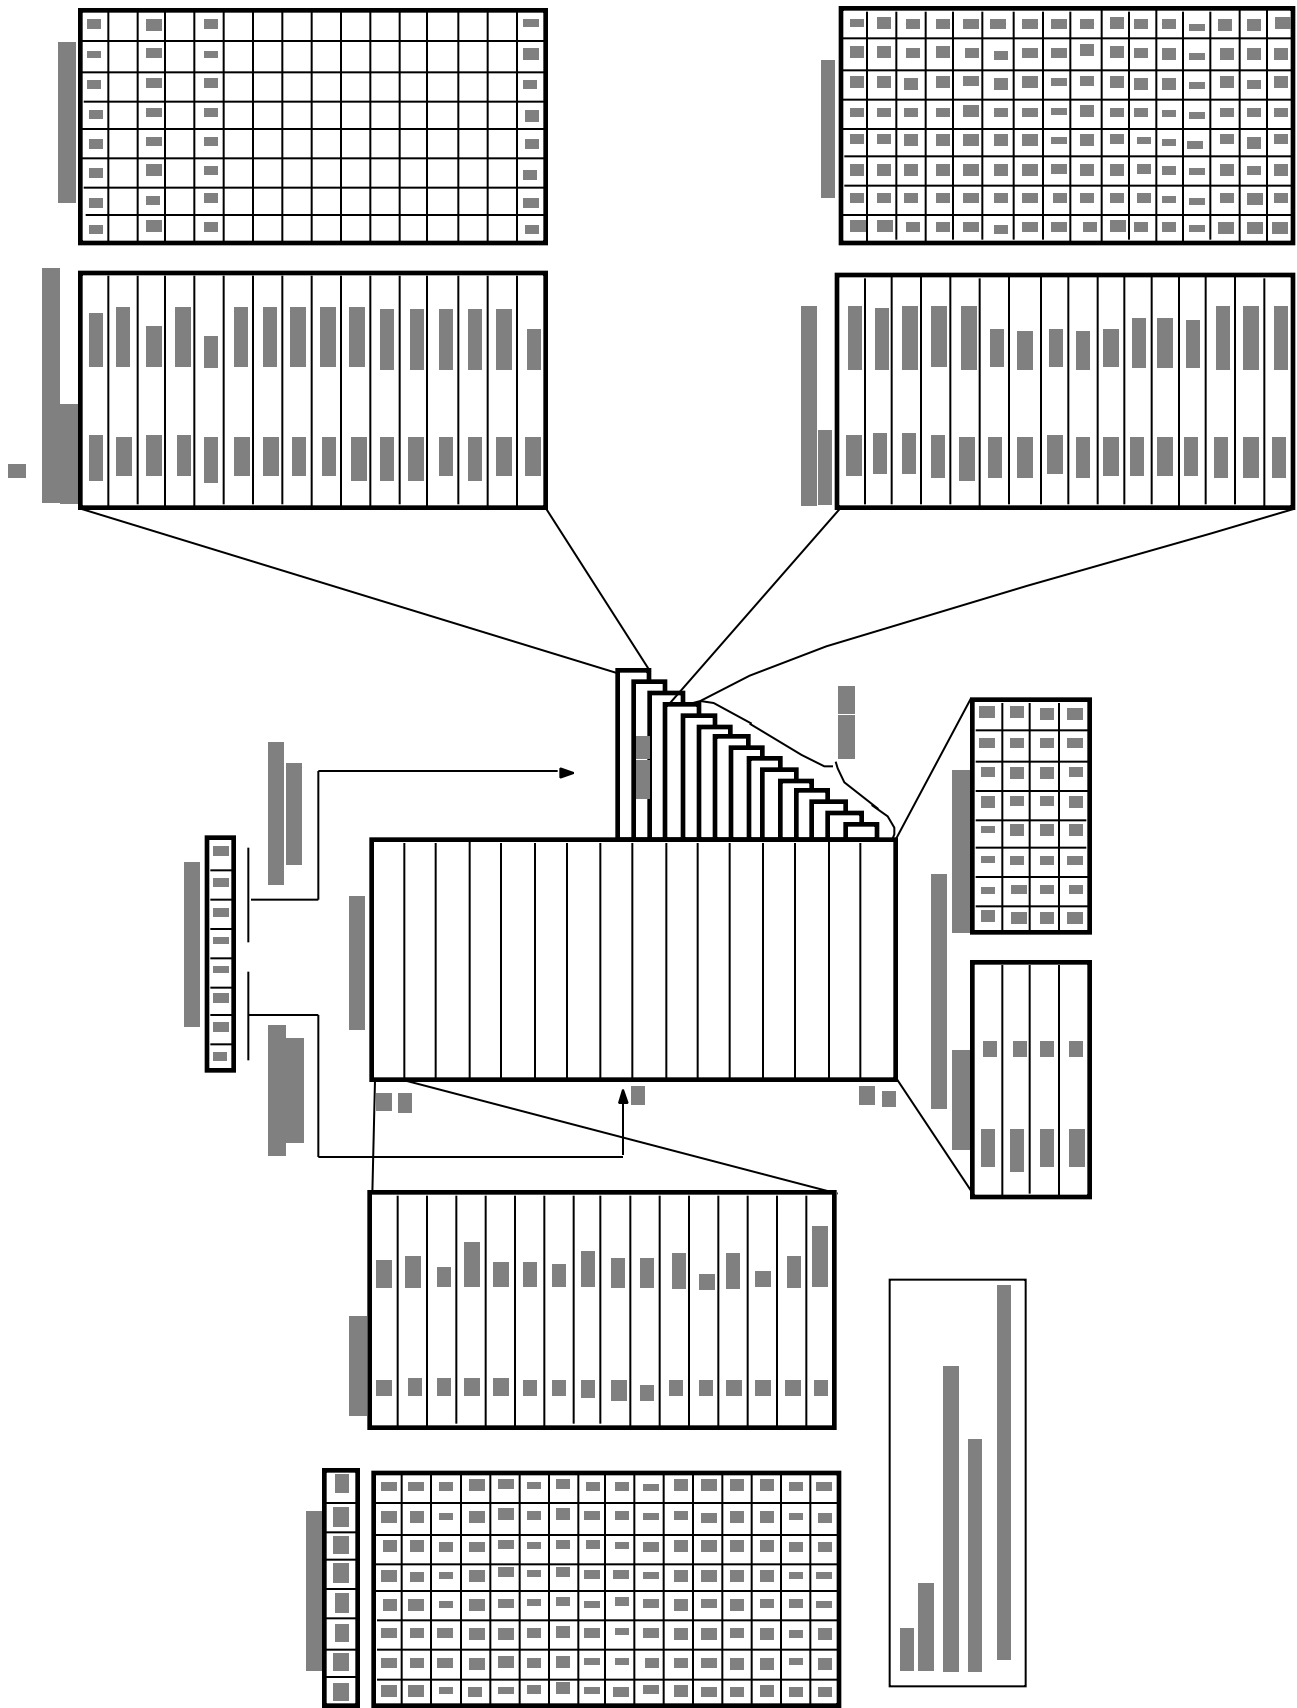
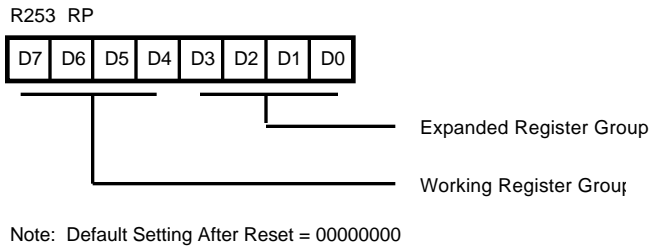

Figure 16. Expanded Register File Architecture
Figure 17. Register Pointer Register
**Expanded Register File.** The register file has been expanded to allow for additional system control registers and for mapping of additional peripheral devices and input/output ports into the register address area. The Z8 register address space R0 through R15 is implemented as 16 groups of 16 registers per group (Figure 16). These register banks are known as the Expanded Register File (ERF). Bits 3-0 of the Register Pointer (RP) select the active ERF bank. Bits 7-4 of register RP select the working register group (Figure 16). Four system configuration registers reside in the ERF address space in Bank F and eight registers reside in Bank C. The rest of the ERF addressing space is not physically implemented, and is open for future expansion.
**Register File.** The Register File consists of three I/O port registers, 237 general-purpose registers, 15 control and status registers, and four system configuration registers in the Expanded Register Group (Figure 16). The instructions can access registers directly or indirectly through an 8-bit address field. This allows a short 4-bit register address using the Register Pointer (Figure 18). In the 4-bit mode, the Register File is divided into 16 working register groups, each occupying 16 continuous locations. The Register Pointer (Figure 17) addresses the starting location of the active working-register group.